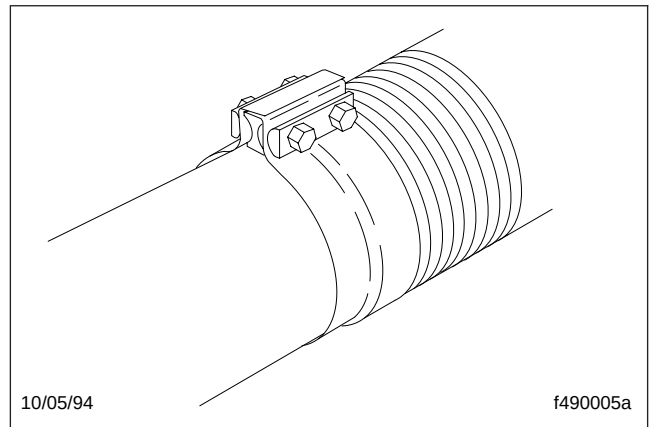

Fig. 5, Torca Torctite Wide-Band Exhaust Clamp
7. Check for leakage at all wide-band exhaust clamps. See Fig. 4, Fig. 5, or Fig. 6.